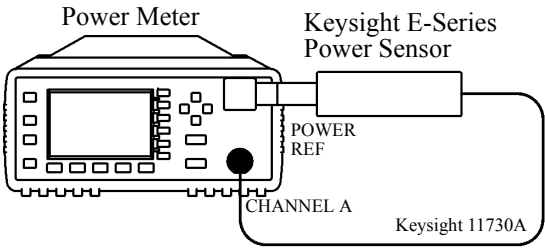

Figure 2-5: Sensor Functional Test Setup
- 1. Connect the equipment as shown in **Figure 2-5**.
12. Disconnect the 30 dB attenuator and reconnect as shown in **Figure 2-5**.